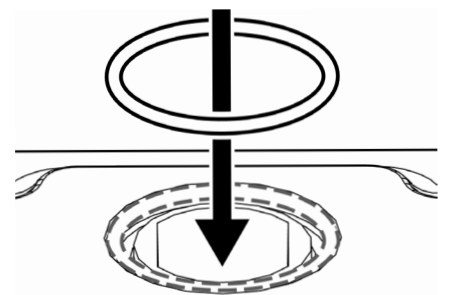

Figure 4: Ensure the o-ring stays installed and seated evenly
- c. Ensure the o-ring stays installed and seated evenly.** Your accessory has an o-ring that helps to seal the space between the lock core and accessory (Figure 4). Check if it has fallen out during lock core removal. This o-ring must be installed or your accessory will not function properly.